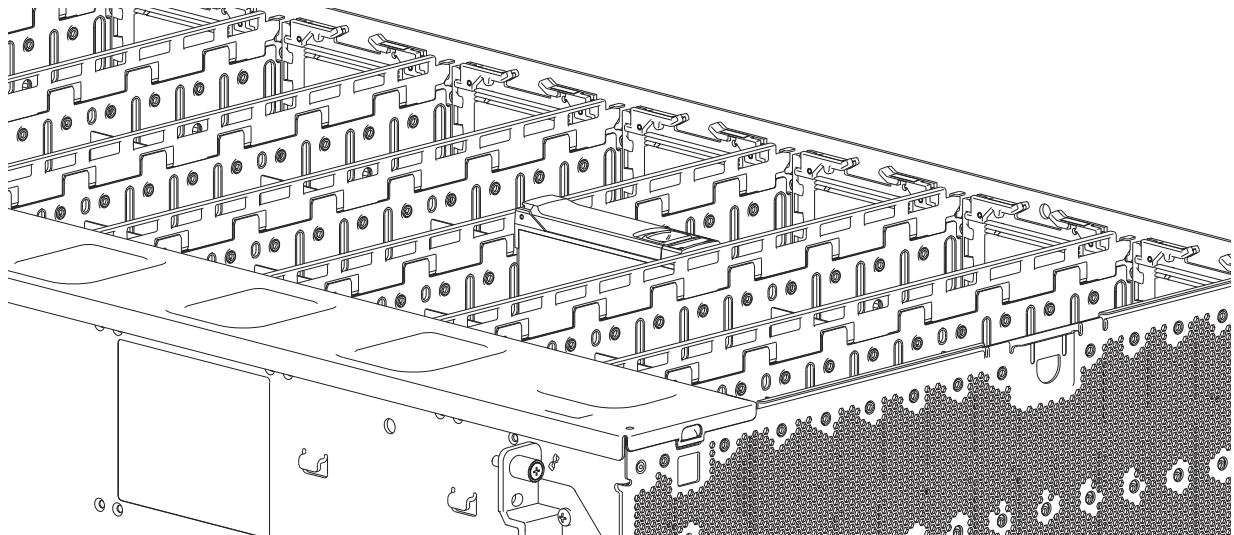

Figure 71 Installing an LFF drive carrier module (1 of 2)
2. Insert the drive carrier module into the enclosure. Make sure that the drive is held vertically with carrier latch positioned at the top, and the carrier hinge is present at the back of the enclosure as shown in Figure 71.